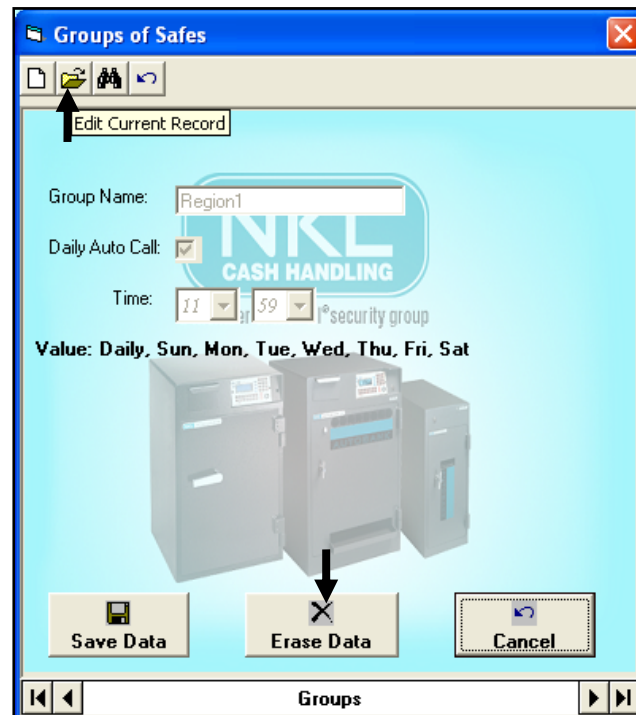

Fig. 7.10
- 4) To edit or delete an existing group, first use the scroll arrows at the bottom of the window until the group you want to edit is visible. Select the **Edit Current Record** button at the top of the window to edit the selected group. When finished editing select the **Save Data** button to save all changes. To delete a group, select the **Erase Data** button at the bottom of the window (Fig. 7.10).